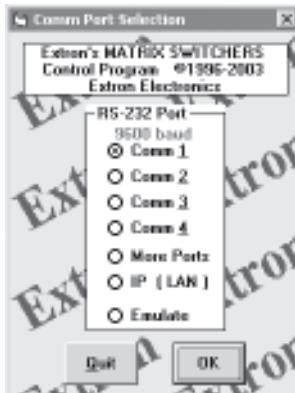

Figure 5-3 — Comm port selection window
1. To run the Matrix Switchers Control Program, double-click on the Matrix Switchers Control Program icon (shown at right) in the Extron Electronics group or folder. The comm port selection window (figure 5-3) appears.